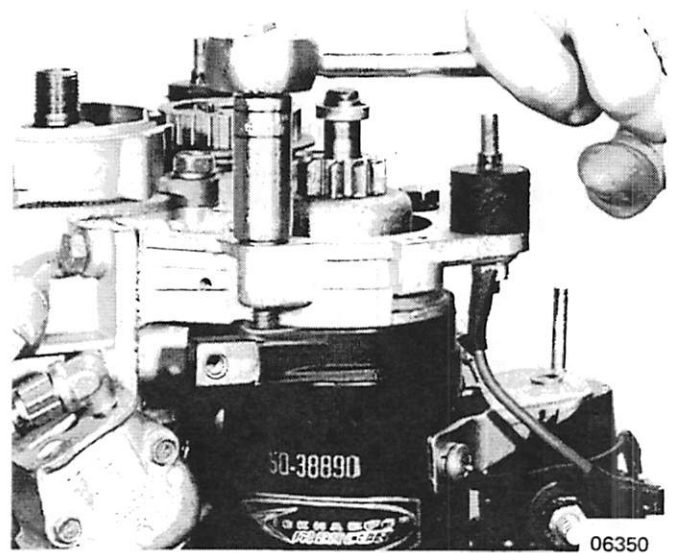

Figure 1. Removing and Installing Starter Motor
2. Remove starter motor and mechanism from engine by removing mounting bolts from mounting flange. (Figure 1)